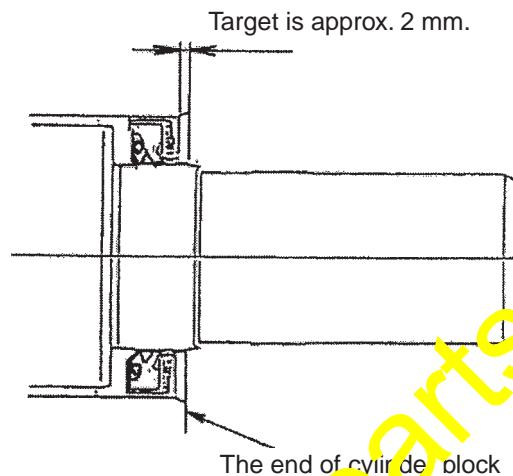

Fig. 2: Seal press-fitting depth
- ① Apply the lithium grease (G2-L1) to the lip portion, and apply the engine oil to the periphery.
- ② The press-fitting depth is 2 mm from the block surface. (Refer to Fig. 2.)
- ③ When press-fitting the seal, in order to avoid the deformation of metal ring portion, make the below-mentioned jig (refer to 3)) and use it.